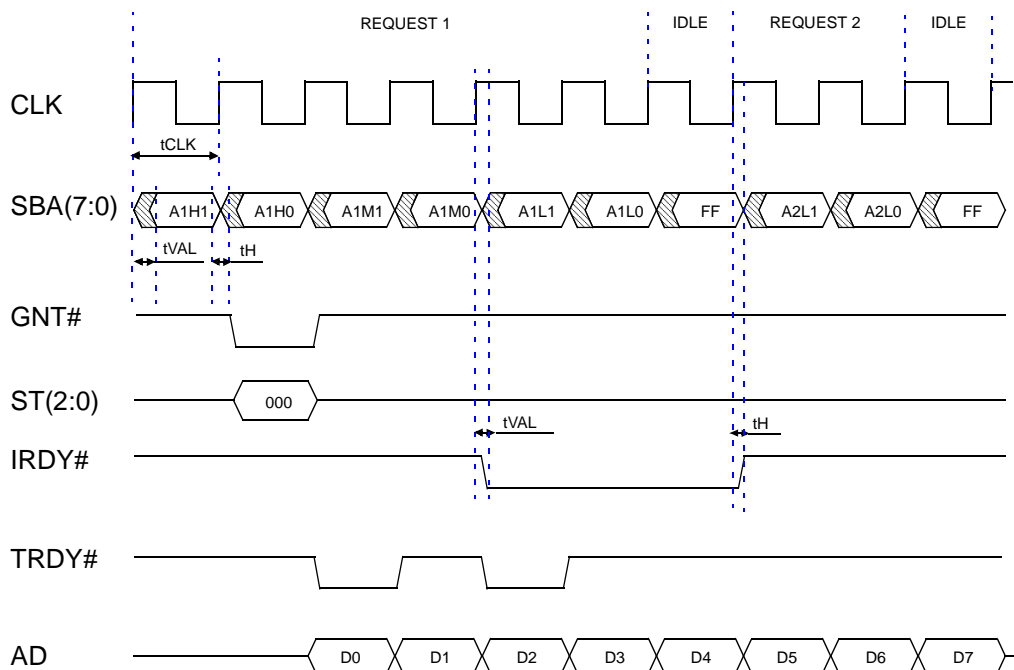
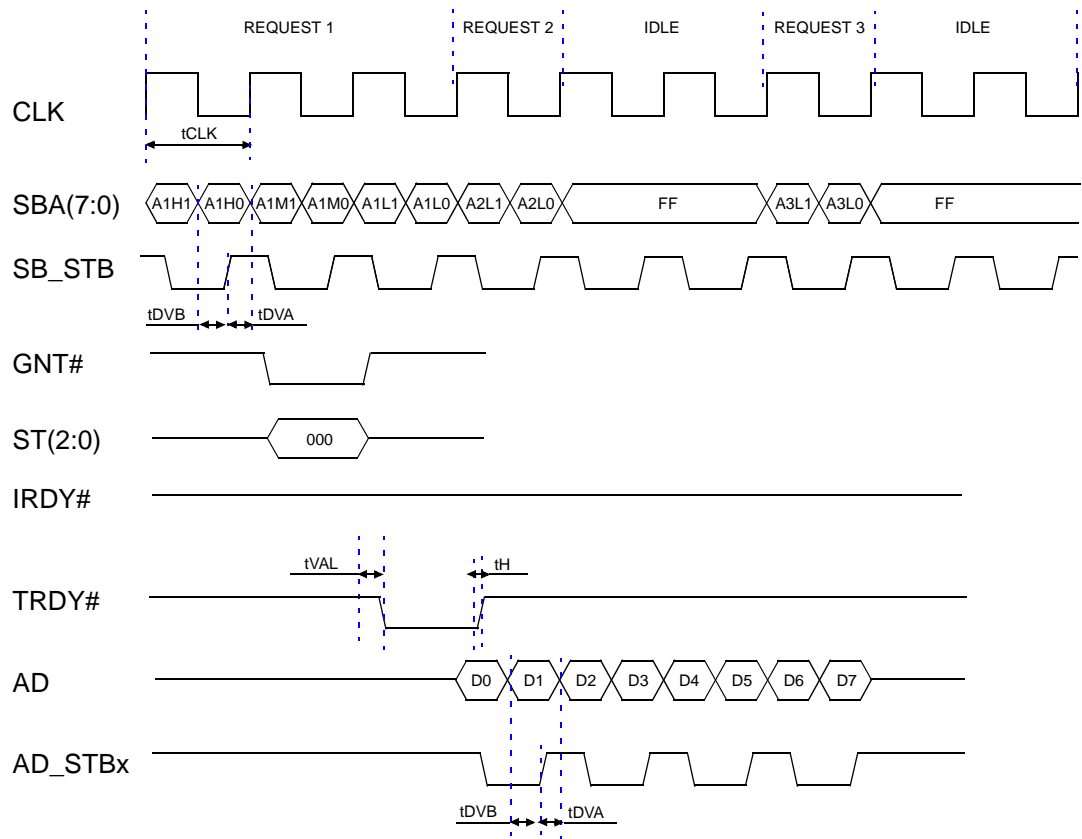

Figure 5-5. AGP 1X Read Request with Return Data (4 Qw)
Figure 5-6. AGP 2X Read Request with Return Data (4Qw)
- AGP AC Timing, see Figure 5-6. and Figure 5-5.